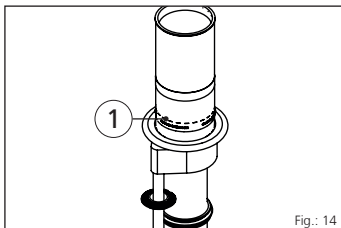

Fig.: 14
- On the ESH Basic-FUBO-E there is an **"unfinished floor upper edge"** label/mark (see fig.: 14).
Legend for Fig.: 14